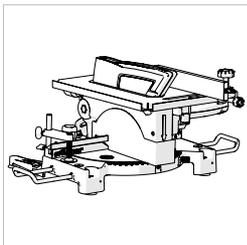

Fig. 18
- Loosen the Table Height Adjustment Screw (Fig.18) and lower the table to its lowest position.